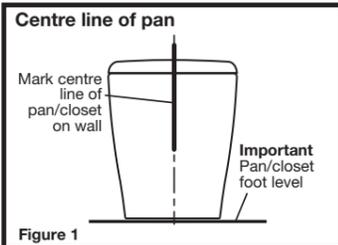

Figure 1
- 1- Mark centre line of the pan/closet on finished wall, as detailed in Fig. 1. This is to be used as a guide when connecting the pan/closet.